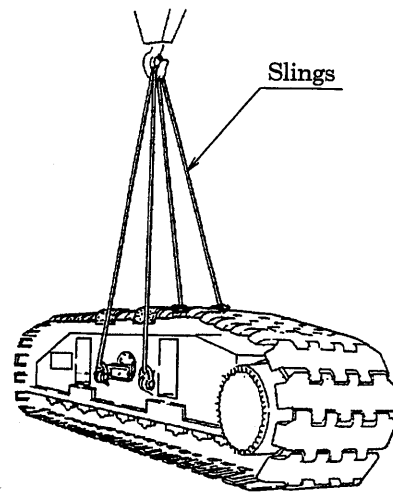

Fig. 11-18
- (4) Lift the crawler with the slings and the hook. When lifting, use protective material to prevent the crawler from being caught in between the shoes. (Fig. 11-18)